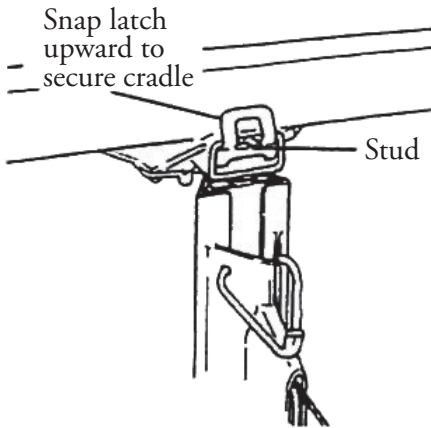

Fig. 7
- Attach the cradle to the frame (Fig 7)